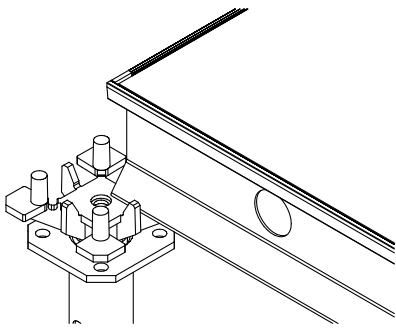

Fig. 14.7 – Prop - shoring head located where four boards contact each other
1. Position the ceiling props fitted with the heads with the head covers in (A0070000) the board corners (A0070005). Below drawing shows two methods of assembling cross head on the ceiling support. First one is to fully insert cross head into the ceiling support and secure connection. Second one is to partly remove cross head from the ceiling support and secure connection using rod or bolt (all drawings in the Assembly Manual show the first method). Before the assembly of each prop you should pre-determine its basic height by using the G-hook lock inserted in the appropriate system hole of the upper and mobile pipe part. To precisely adjust the prop height you should use the nut which should be appropriately rotated. Then to protect the props against the possible falling you should use the tripods. The recommended ratio of the tripods installed to the number of props is 1:3. The props fitted with the head and the head cover (A0070005) should be used in the corners of the facilities erected. Figures 14.7, 14.8 and 14.9 show various application concepts.